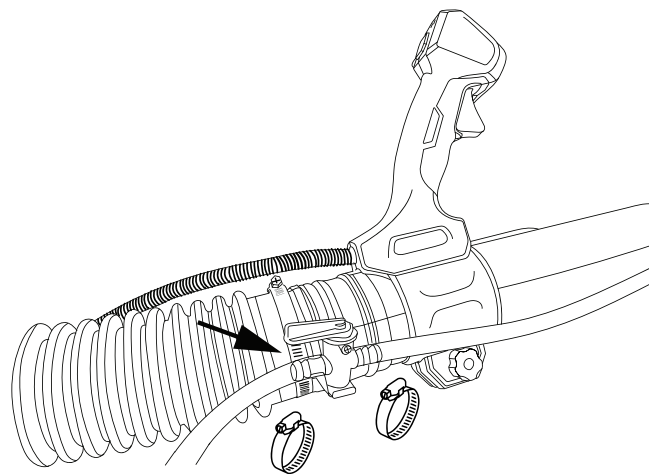

FIGURE 6
4.2.6 Slide the metal base of the water valve underneath the hose clamp of the accordion tube. Loosen and tighten the clamp if necessary. **FIGURE 6.**
4.2.7 Attach the other end of the clear feeder tube to the back of the water valve. Add the second clear feeder tube to the other side of the water valve. **FIGURE 6.**